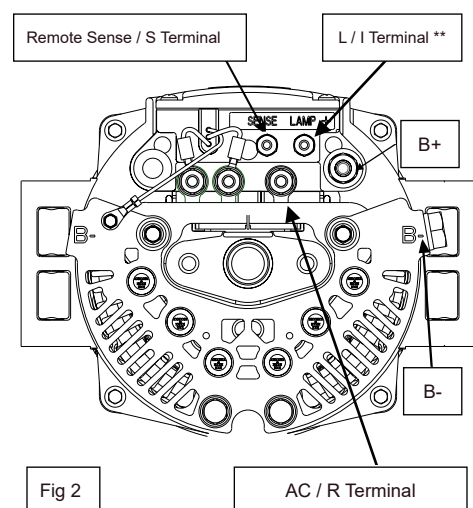

Fig 2
- 2) Install vehicle B+ cable. (Fig 2)
- 3) Install vehicle B- cable. (Fig 2)
- 4) Install vehicle S wire. (Fig 2)
- 5) Install vehicle L wire. (Fig 2)